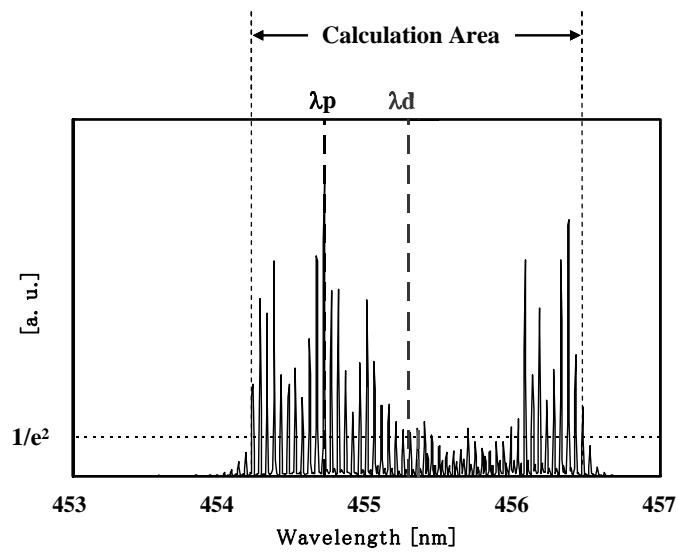

Fig.2 Definition of Dominant Wavelength
*8) λ_d is defined from trichromatic coordinate (x, y) values on chromaticity diagram calculated from the peak intensity higher than 1/e² shown in Fig.2.